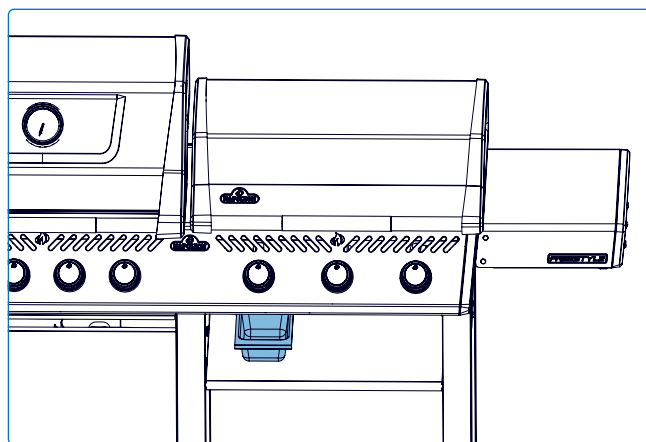

Fig. 26
1. Once the appliance has cooled completely, carefully remove the grease tray by sliding it straight out from the appliance cart. Do not tilt the tray during removal (**Fig. 26**).